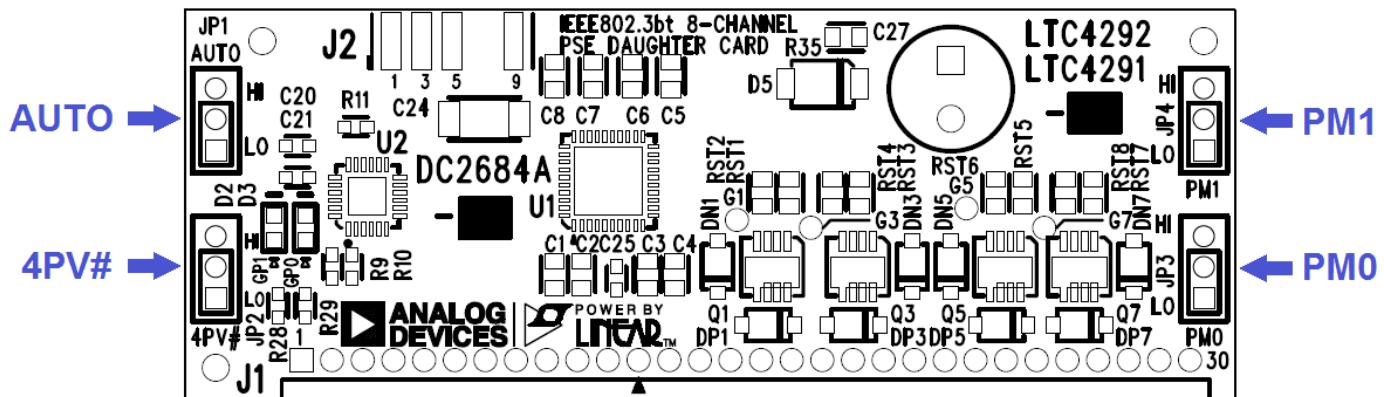
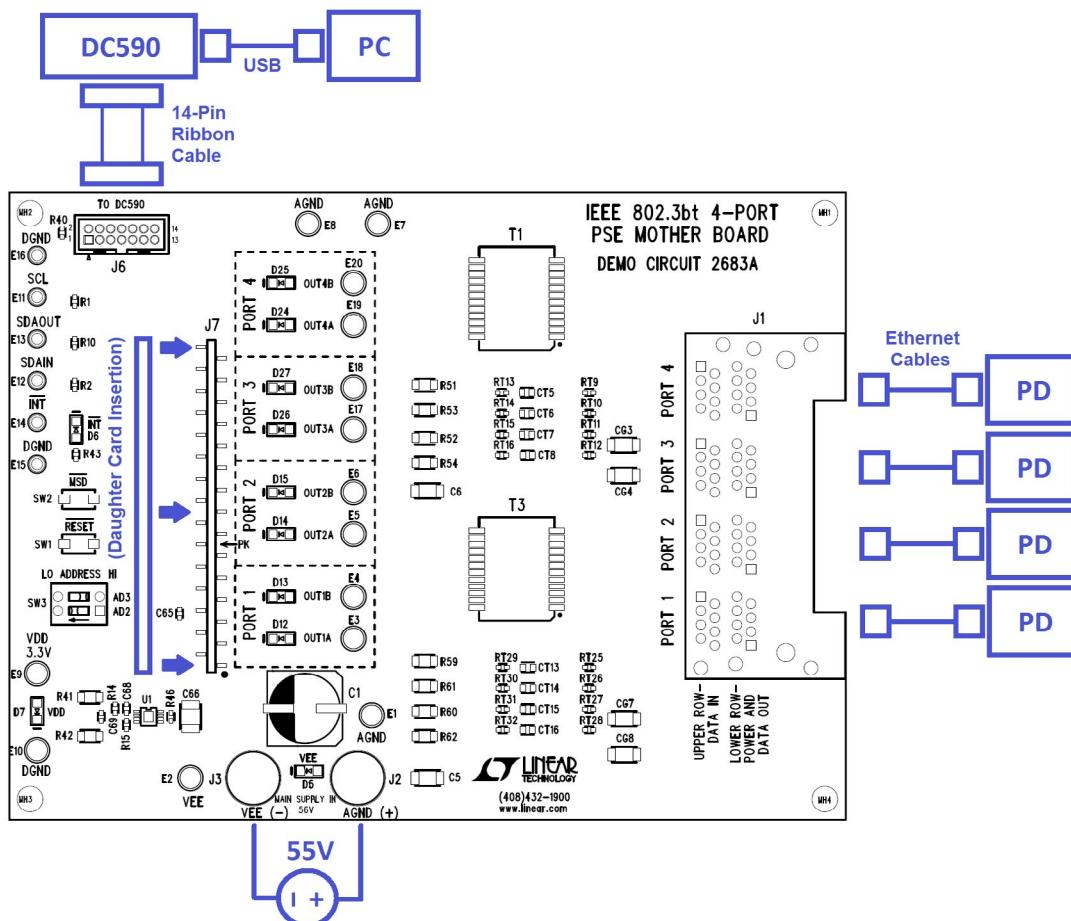

Figure 1. DC2684A-B Jumpers: AUTO, 4PV#, PM0 and PM1
Figure 3. DC2685B-KIT Connections
Follow the quick start procedure below for basic operation of the DC2685B-KIT. Refer to Figure 1 through Figure 3 and Table 1 through Table 4 for proper equipment setup.
1. On the DC2684A-B daughter card set AUTO jumper JP1 (Figure 1) to a selected AUTO mode setting shown in Table 1.
2. On the DC2684A-B daughter card set 4PV# jumper JP2 (Figure 1) to a selected 4-Pair Valid setting as shown in Table 1.
3. On the DC2684A-B daughter card set PM1 jumper JP4 and PM0 jumper JP3 (Figure 1) to the power mode for evaluation specified in Table 2.
5. Connect a supply to the motherboard with the positive rail to AGND (+) and negative rail to V_{EE} (-) as shown in Figure 3. Use a power supply capable of sourcing the maximum delivered power for all four ports set by JP3 and JP4 on the daughter card (or I²C configured power). Ramp the supply up to within the recommended voltage range specified in Table 3.
8. Connect the DC590 to the DC2683A at connector J6 with a 14-pin ribbon cable as shown in Figure 3 and open the QuikEval GUI. A GUI for the LTC4291-1/ LTC4292 is brought up by QuikEval. (Follow the DC590 demo manual instructions if this has not been previously setup.)
9. Connect up to four PDs to the DC2685B-KIT RJ45 connector J1, bottom row ports 1-4 as shown in Figure 3.
The V_{EE} supply is the main PoE supply and connects to the DC2683A with the positive rail to AGND (+) and the negative rail to V_{EE} (-) as shown in Figure 3 of the Quick Start Procedure. The voltage must be within the range shown in Table 3 depending on the application PSE type. For full load testing at each port, choose a power supply that is set with a current limit higher than the maximum allowed output power at each port.